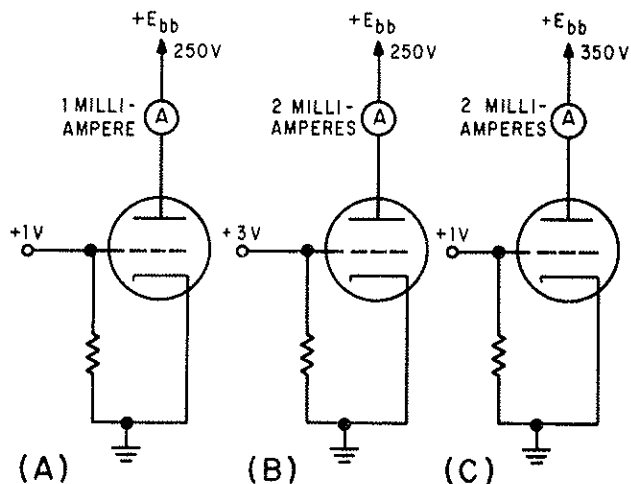

Figure 1-28.—Obtaining gain and transconductance.
While this may sound complicated it really isn't. Look at figure 1-28. Here you see in view (A) a triode with a  $+1$  volt input signal. At this grid voltage, current through the tube is at 1 milliampere. If the input voltage is raised to  $+3$  volts, current through the tube increases to 2 milliamperes. The change in  $E_g$  ( $\Delta E_g$ ) is then 2 volts. This is shown in view (B). Suppose that the grid voltage is returned to  $+1$  volt, and plate voltage is increased until the ammeter in view
Examine figure 1-28, views (A) and (B), again. In view (A), the input voltage is +1 volt. At +1 volt  $E_g$ , the plate current is equal to 1 milliampere with a plate voltage of 250 volts. In view (B), the input voltage ( $E_g$ ) is raised to +3 volts.  $\Delta E_g$ , as before, is equal to 2 volts. This increase in grid voltage causes plate current to increase to 2 milliamperes. The change in plate